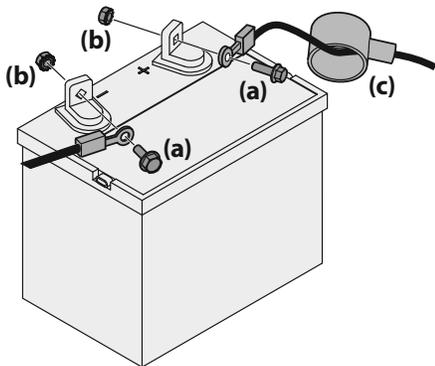

Figure 12
1. If present, remove the plastic cover from the positive battery terminal. Attach the red connector to the positive battery terminal (+) using the bolt (a) and hex nut (b). See Figure 12.
2. If present, remove the plastic cover from the negative battery terminal and attach the black cable to the negative battery terminal (-) with the bolt (a) and hex nut (b). See Figure 12.
3. Position the red rubber boot (c) over the positive battery terminal (+) to help protect it from corrosion. See Figure 12.